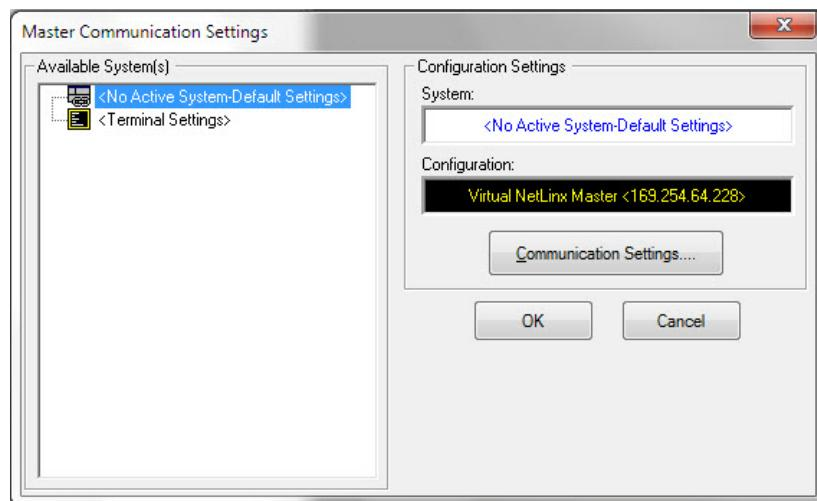

FIG. 35 Master Communications Settings dialog
2. In NetLinx Studio, select **Settings > Master Communication Settings** from the *Main* menu to open the *Master Communication Settings* dialog (FIG. 35).